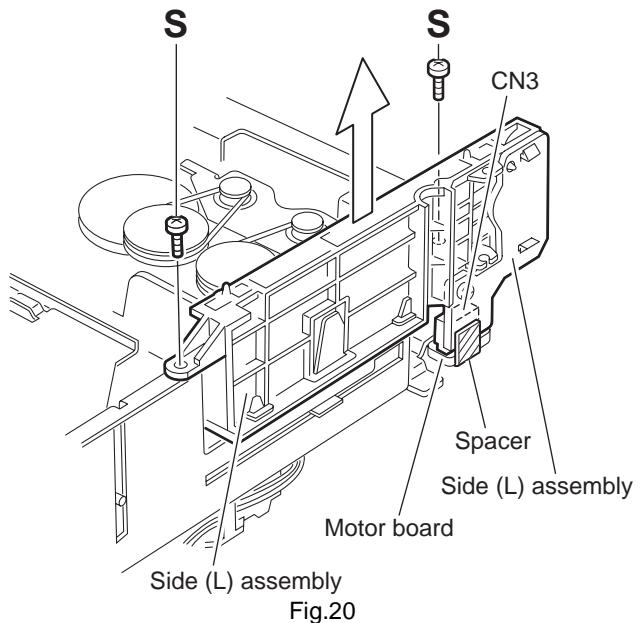

Fig.20
- From the left side of the DVD changer mechanism assembly, removing the spacer fixing the tray switch board and motor board. (See Fig.20.)
- Disconnect the connector **CN3** on the tray switch board from the motor board and detach the side (L) assembly in an upward direction. (See Fig.20.)